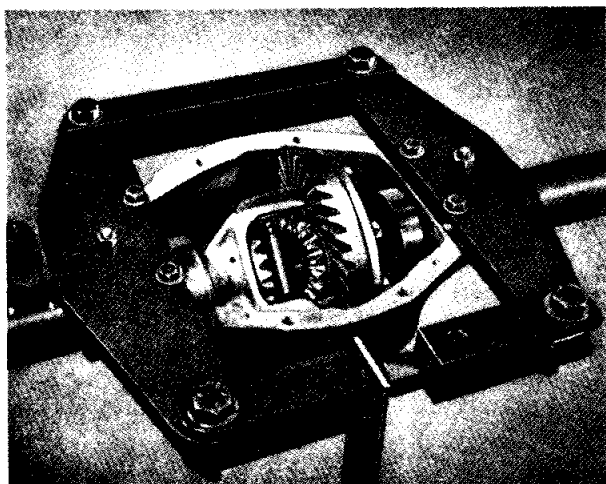

Fig. 13 Casing spreader in position. Churchill Tool No. S101.
- (i) Apply axle casing spreader as shown in Fig. 13, and lift differential assembly
- (xxiv) The differential assembly is now fitted into the axle centre casing and, owing to the pre-loading of the bearings, a certain amount of casing spreading is desirable to complete this operation. THE CASING SPREADER SHOWN IN FIG. 13 SHOULD BE USED AND THE SPREADING OF THE CASE LIMITED TO THAT JUST REQUIRED TO ENABLE THE DIFFERENTIAL ASSEMBLY TO ENTER THE CASING.